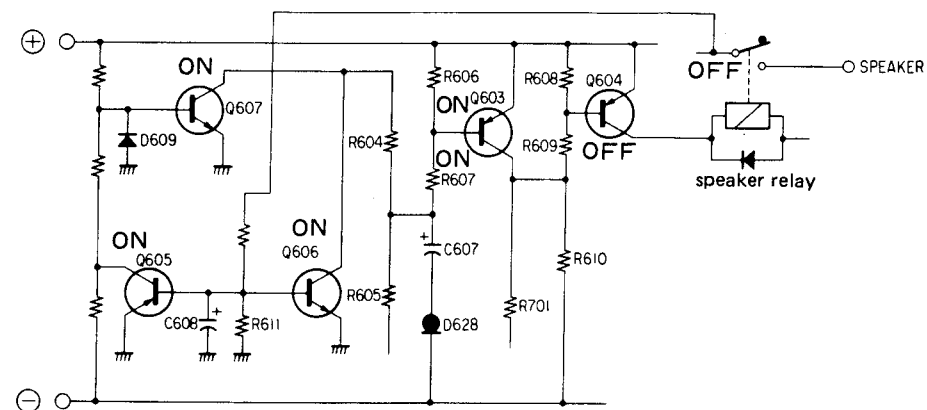

Figure 10
• Speaker Protection Circuit (See Figure 10)